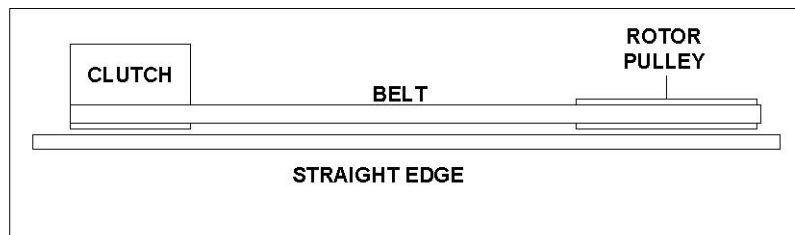

Figure 2
- Check alignment of the clutch (item #12, pg.27) with the drive pulley (item #13, pg 27) by placing a straightedge across both faces as shown in figure 2. If adjustment is necessary, correct alignment by moving rotor pulley in or out on the rotor shaft. **Do not make adjustment by moving the clutch on the engine shaft.**